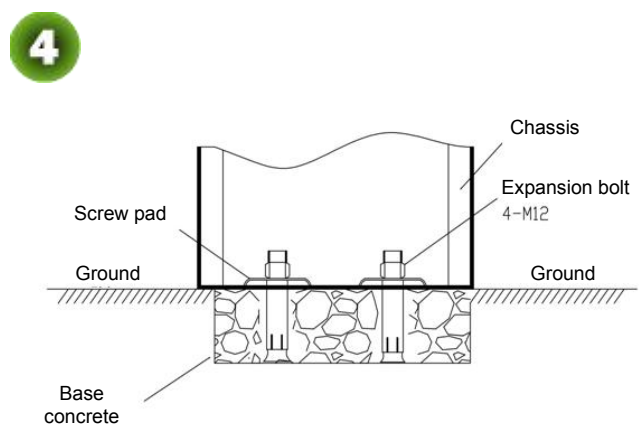

Figure 2-3D
- 4) Install screw pads and use a wrench to tighten nuts, as shown in Figure 2-3D.